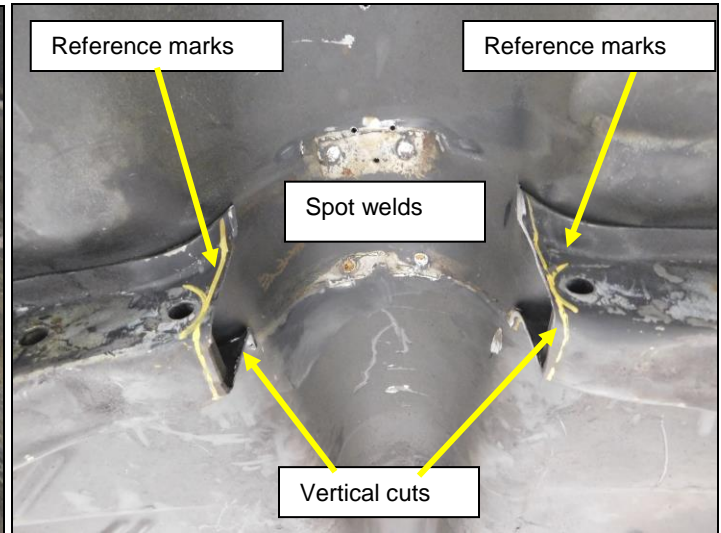

Figure 4
4. Cut the tunnel hoop at the vertical lines using a cut off wheel or sawzall. Be careful to not cut the sheet metal of the transmission tunnel. Do not cut inside the reference line, leave the line intact as a safety margin. You will use the flap wheel or grinder to fine tune the opening for the WB130042 Hoop as needed (**Figure 4**).
5. Use the spot weld drill to remove the spot welds at the flange and remove the hoop section of the torsion bar crossmember. A grinder or drill bit will also work for this. Take your time and only remove the material at the tunnel hoop flange and avoid drilling through the transmission tunnel sheet metal (**Figure 4**).